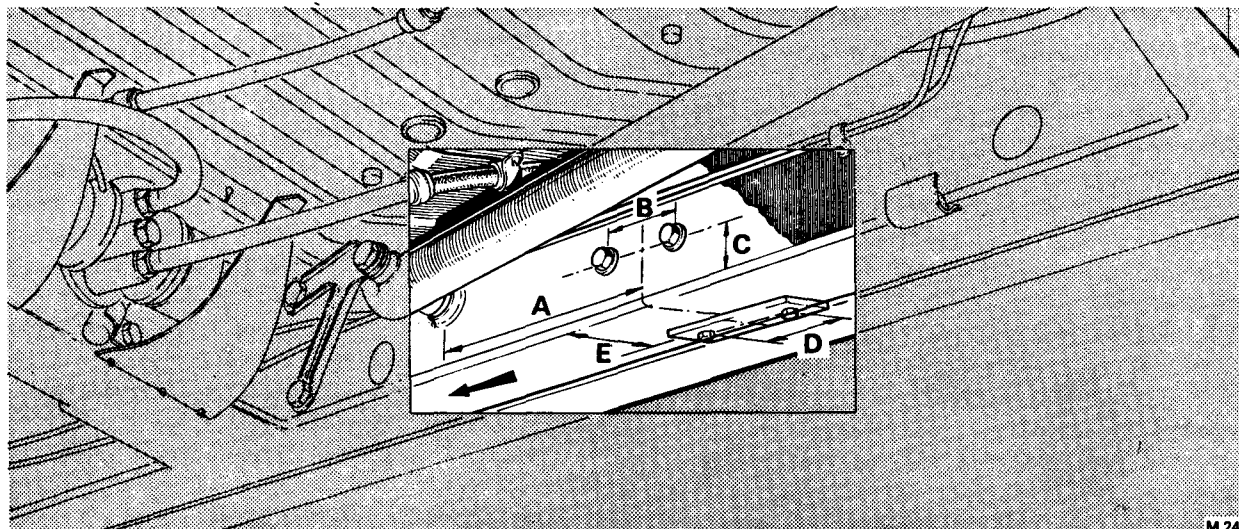

FIG. S102 DRILLING DIMENSIONS FOR THE SILL CHANNEL (Early 4-Door Saloon and Long Wheelbase Non-division Cars)
10. Mark the position of the four holes to be drilled in the sill channel working to the dimensions shown in Figure S102, noting that the centres of these holes have been taken from the centre of the torque tube front mounting point.
Note that Figure S102 illustrates a right-hand sill when facing towards the front of the car; the dimensions for a left-hand sill are symmetrically opposite.